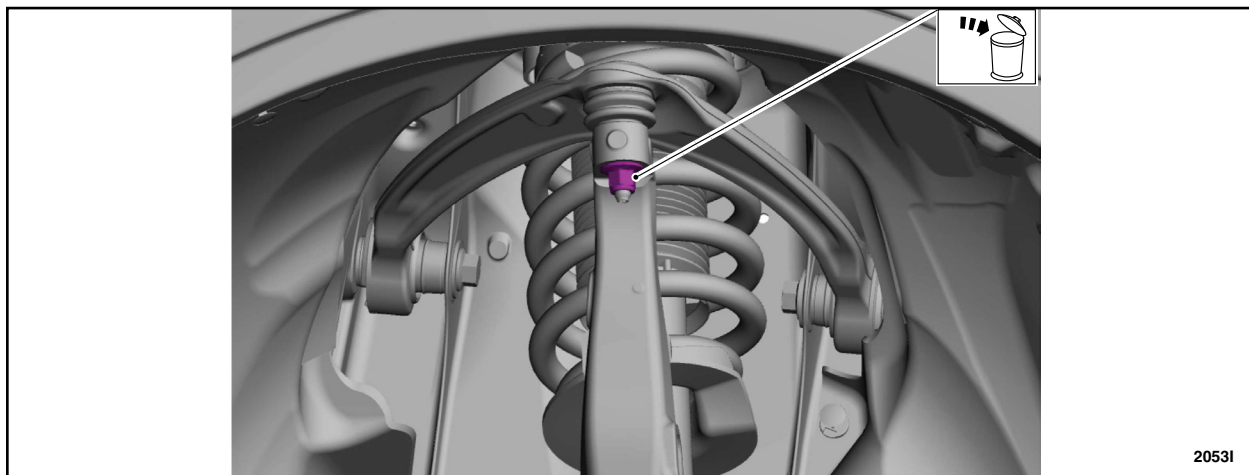

**FIGURE 7**
11. Separate the rear lower arm from the wheel Knuckle. See Figure 7.